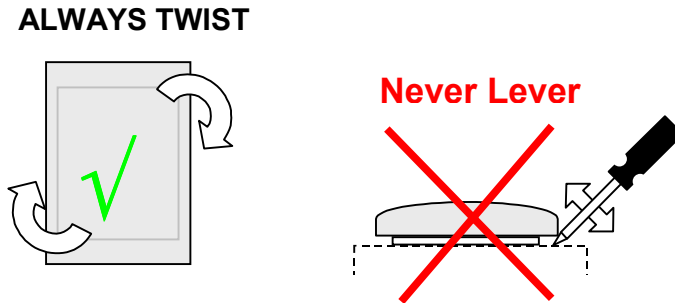

Figure 4.4 Tag Removal
3. If you have to re-locate a tag then remove it with a twisting action as shown in figure 4.4, rather than trying to prize it off.
The correct way to remove a tag is to twist the tag, therefore breaking the adhesive pad. **NEVER** lever off a tag, this may cause permanent damage to the tag and the asset (See fig. 4.4).